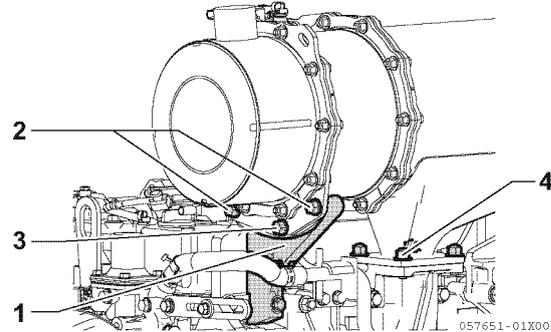

Figure 13-23
- Remove the fixing bolts (2 pcs.) (2 **Figure 13-23**) and flange nut (3 **Figure 13-23**) from the DPF stay (1 **Figure 13-23**) on the silencer (or outlet flange) side.
- Finally, remove the exhaust manifold flange nuts (4 pcs.) (4 **Figure 13-23**), and remove the DOF unit together with the gasket.